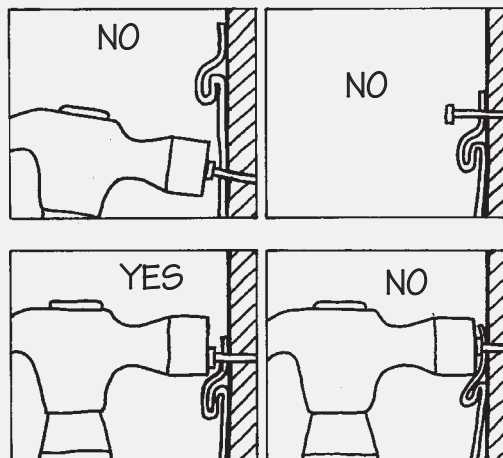

Figure 16.
- Do not drive the head of the fastener tightly against the siding nail hem. Allow 1/32" clearance (the thickness of a dime) between the fastener head and the vinyl. **Tight nailing, screwing, or stapling will cause the vinyl siding to buckle with changes in temperature (Fig. 16).**